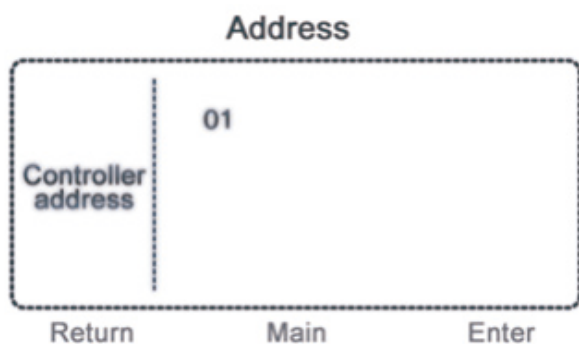
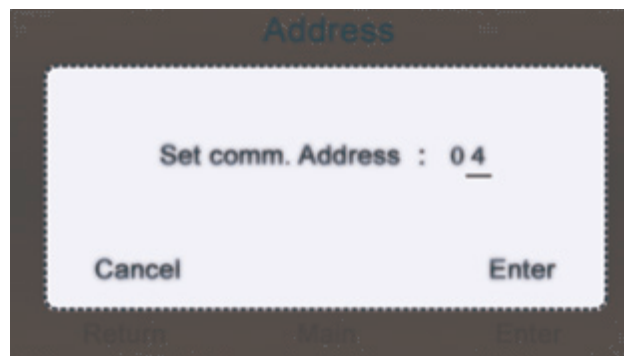

Figure 18
Figure 19
1. Proceed through main interface→Menu→Other →enter the password of the technical personnel→press "Enter" key→Addressing→press "Enter" to enter the interface as shown in Figure 18.
2. Wired controller number, as shown in Figure 18, is set by DIP switch of indoor unit. If one wired controller controls one unit, there is only 01; it displays the unit numbers corresponding to the indoor units in operation.
3. When in the interface as shown in Figure 18, if there are more than one wired controller numbers, use the "Upward" "Downward" "Leftward"and "Rightward" keys to select a unit number and press "Enter" key; Then the POP window as shown in Figure 19 will appear.
4. When the window in Figure 19 has popped out, the communication unit number of this controller can be set (communication addresses between the outdoor unit and indoor unit) 1-64; use the leftward and rightward keys to adjust the unit digits and tens digits and use the upward and downward keys to adjust the values on the corresponding digits; then press "Enter" or "Cancel" to return to the interface as shown in Figure 18.